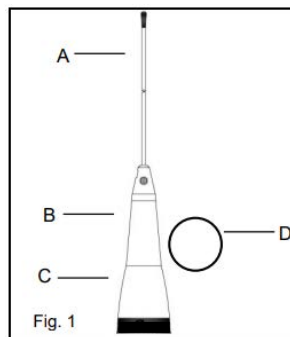

Fig. 1
1. Parts (Figure 1):
Verify all parts are included with the Antenna as shown in Figure 1.